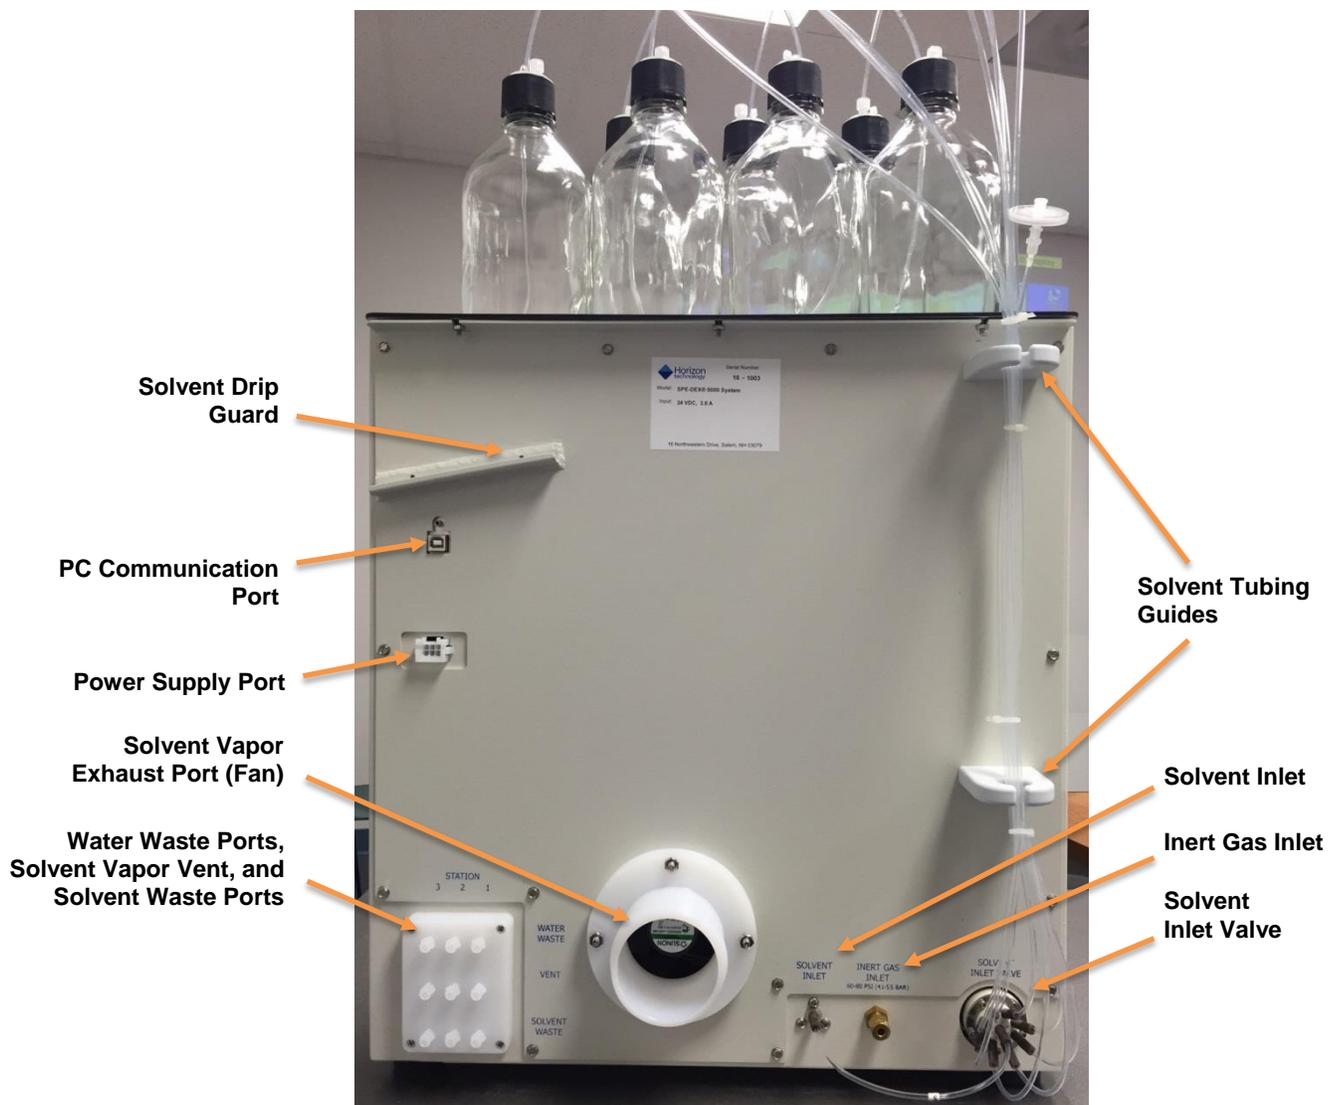

Figure 4-3. Rear of the SPE-DEX 5000 System
As shown in Figure 4-3 on the next page, the major components on the rear of the Extractor Module are:
- Step 1:** Carefully turn the Extractor Module so the backside of the module is facing you, as shown in Figure 4-3 on page 23.